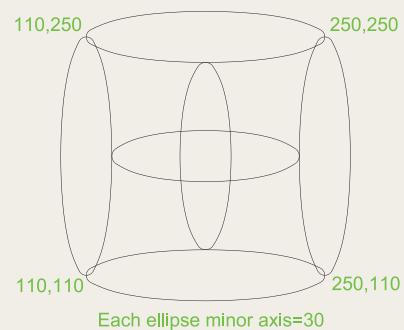

Fig. 3.49 Exercise 5
5. With the **Ellipse** tool, construct the drawing shown in Fig. 3.49.